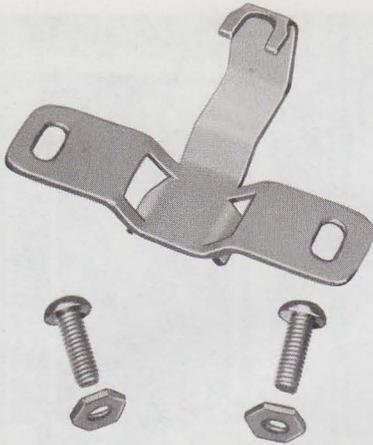

Fig. 31—90A Bracket
- 90A bracket (Fig. 31)—use with 123B1A, 123E1A, 128A1A-2, or 128E1A-2 protectors for indoor location